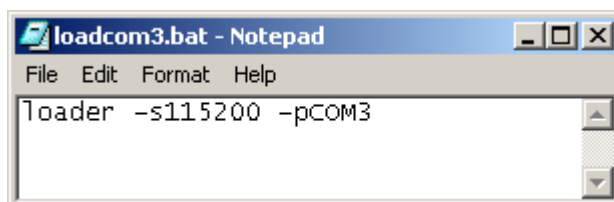

Figure 141 Making the .bat File in Notepad
- b. Connect the maintenance terminal cable to the port **COM0** of the MAWS system and to any free COM port on your computer. For example, if the free COM port is **COM3**, make the .bat file with Notepad, see Figure 141 on page 164.